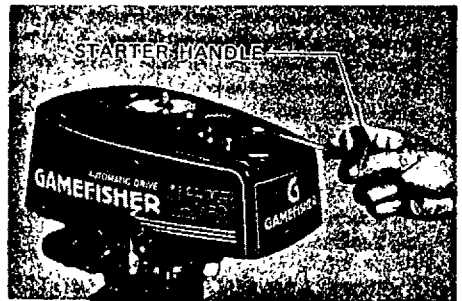

Figure 8
- Pull starter handle slowly until you feel starter engage. Then pull with rapid motion and allow the starter cord to retract slowly. (See Figure 8).